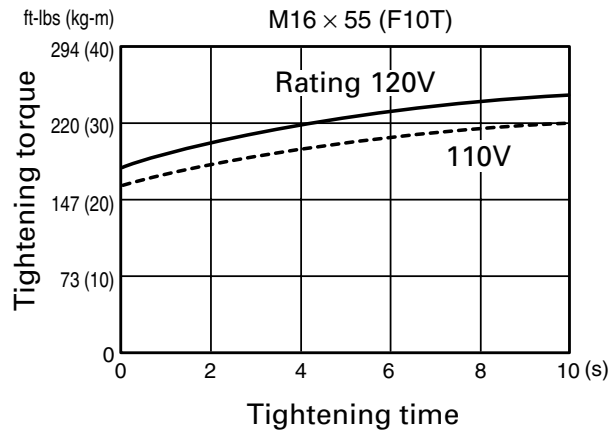

Fig. 4
1. Confirm the line voltage (Fig. 4)
The tightening torque decreases when the line voltage becomes low. (See Fig. 4)
The tightening torque increases when the operating time increases. But the tightening torque does not increase above a certain value even if the tool is driven for a long time. (See Fig. 4)
The tightening torque differs with the diameter of the bolt as shown in Fig. 4. Generally a larger diameter bolt has a larger tightening torque.